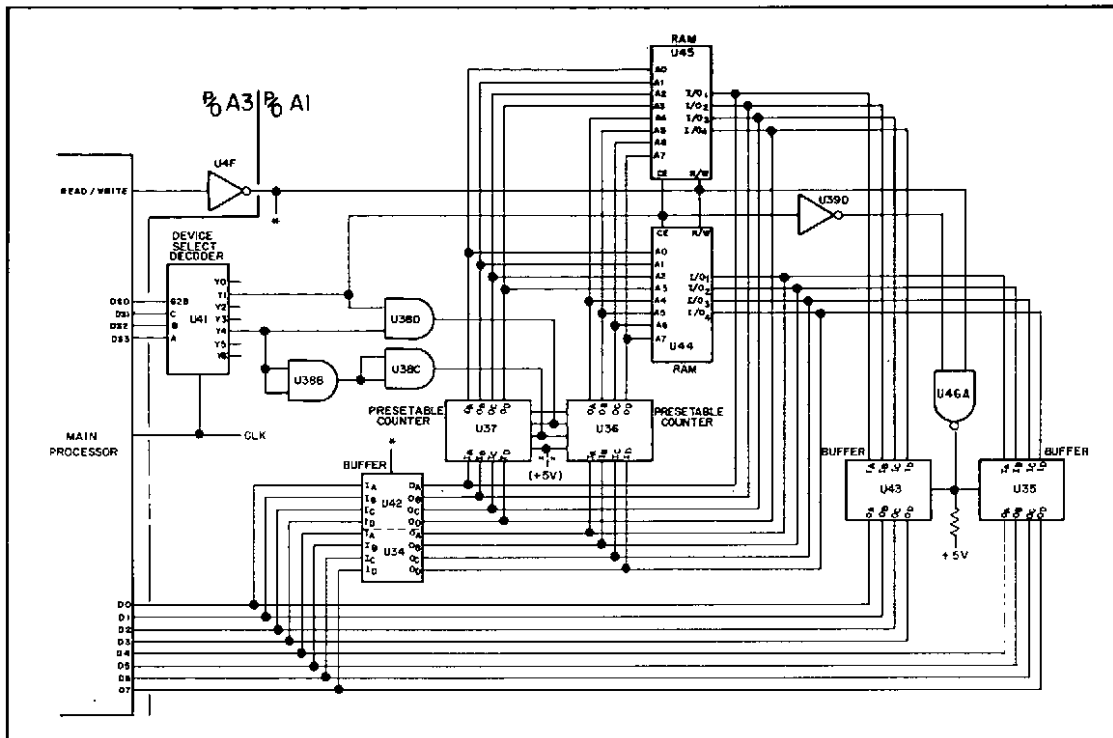

Figure 8-39. Main Controller RAM Circuit.
**8-123. RAM Circuit.** The RAM's are used to store temporary data such as auto-cal constants, display data, front panel and HP-IB status codes, math computations and references; and control status codes. Figure 8-39 is a schematic diagram of the main controller RAM circuit. The RAM's can be set to a particular address by the main processor or are automatically incremented to the next memory address each time data is stored or read. This method allows groups of data to be transferred between the RAM's and main processor without having to address each step and results in higher operating speed.